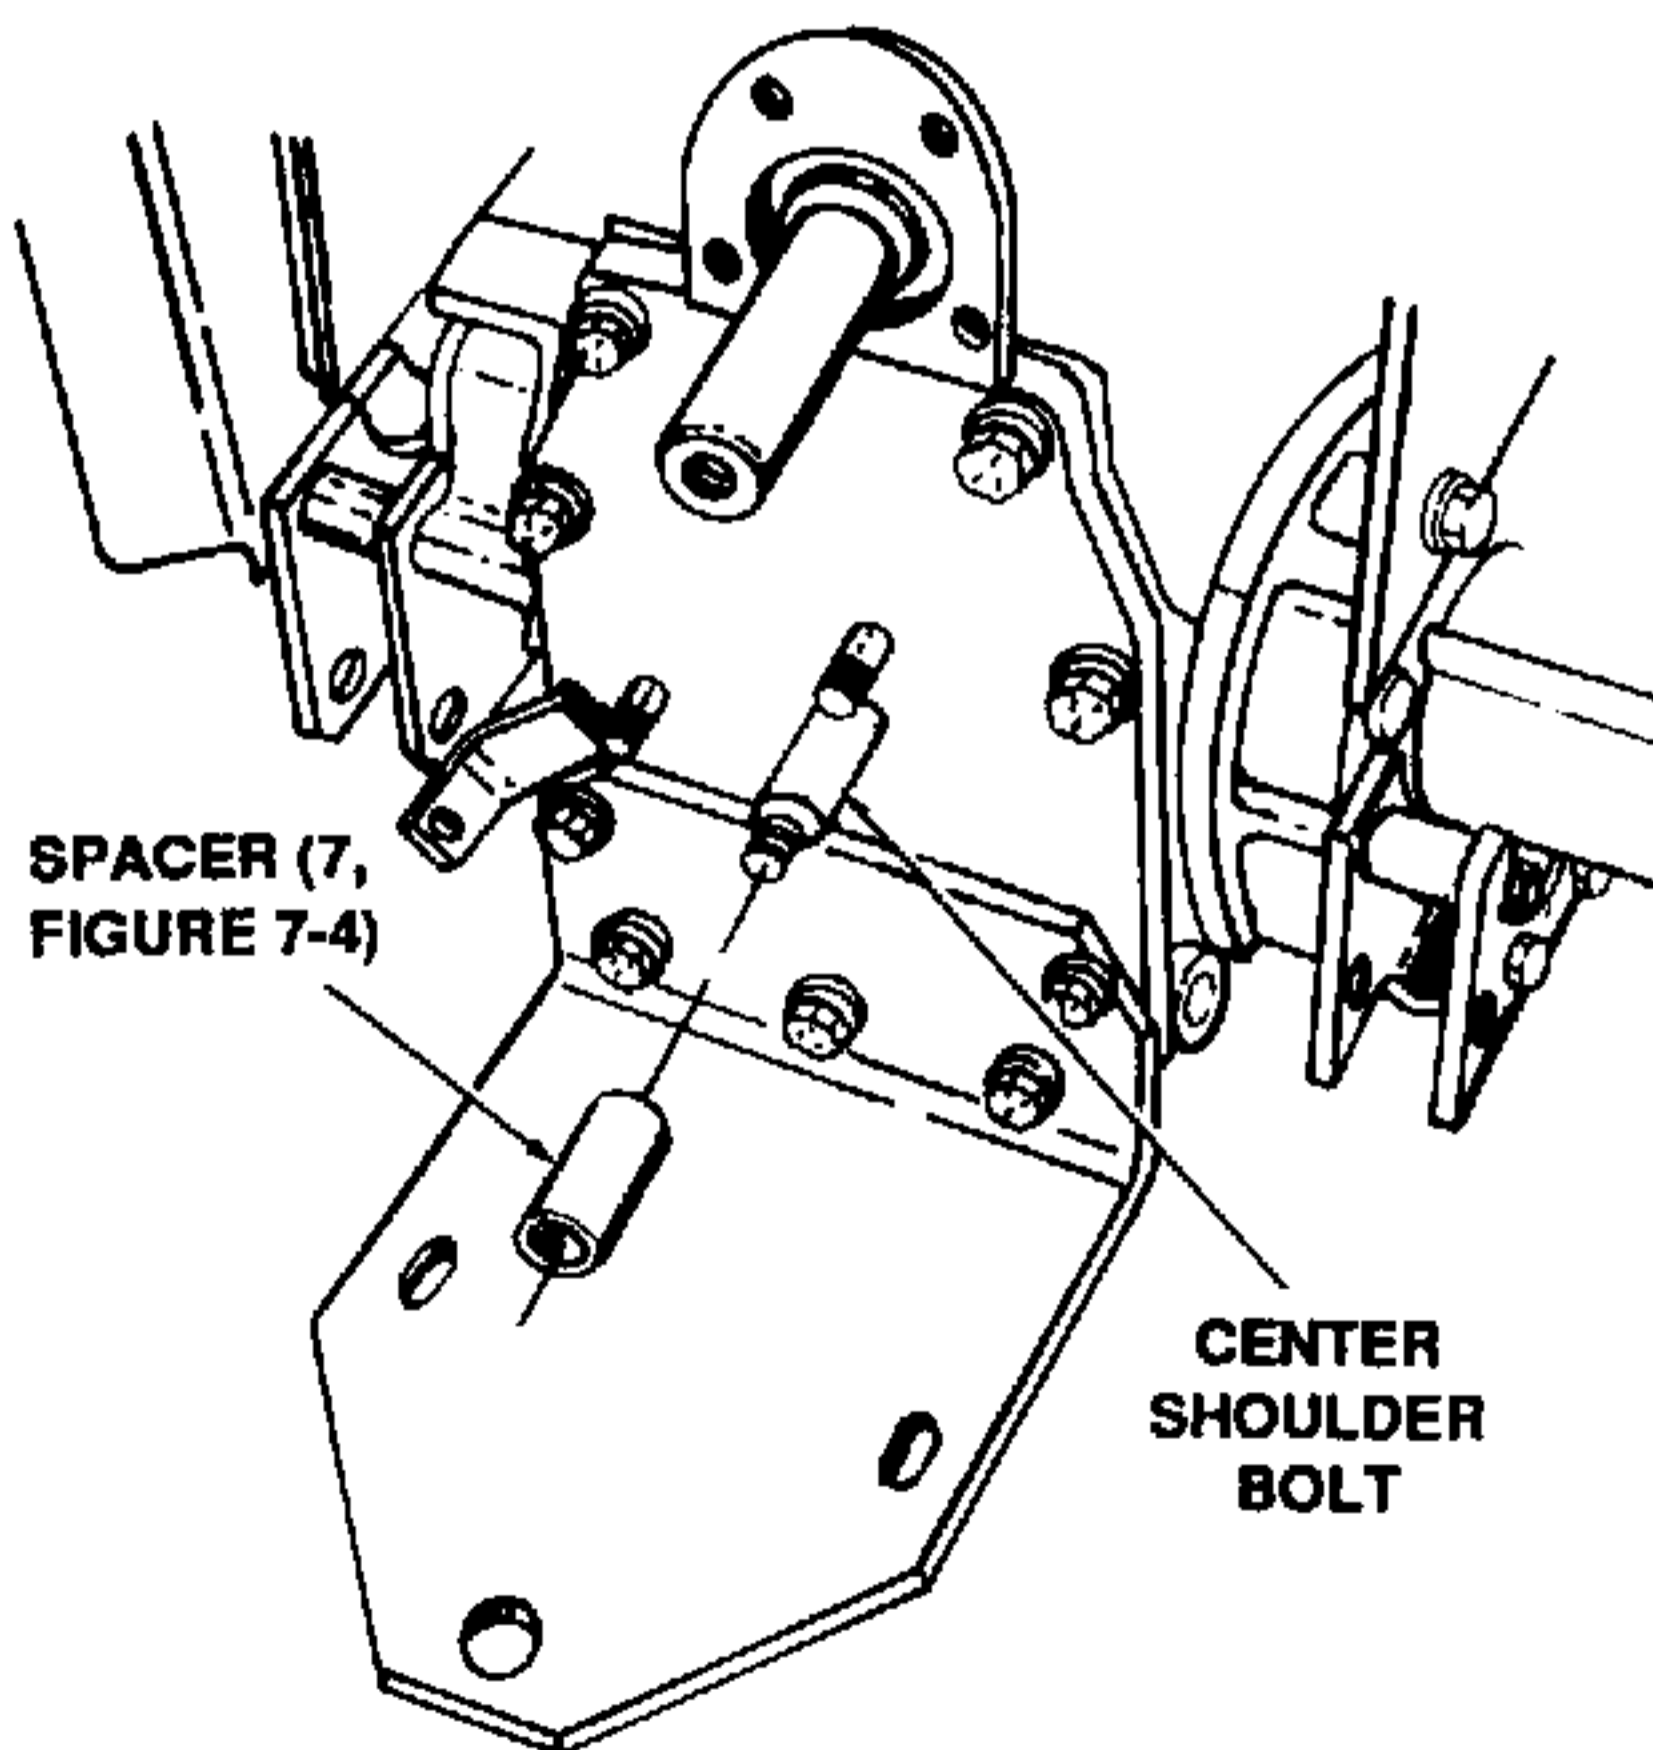

Figure 7-16. Installing the Idler Bracket Assembly.
- a. Place small amount of 251H EP grease on center shoulder bolt of rear cover plate assembly (8) and on exterior of spacer (7, Figure 7-4), and place spacer on shoulder bolt. Refer to Figure 7-16.